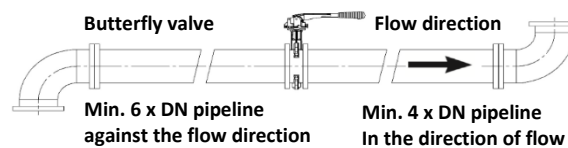

Fig. 1: Valve in pipeline
- When transporting larger valves by crane, it is necessary to tie only the body, not actuator or lever (Fig. 1).